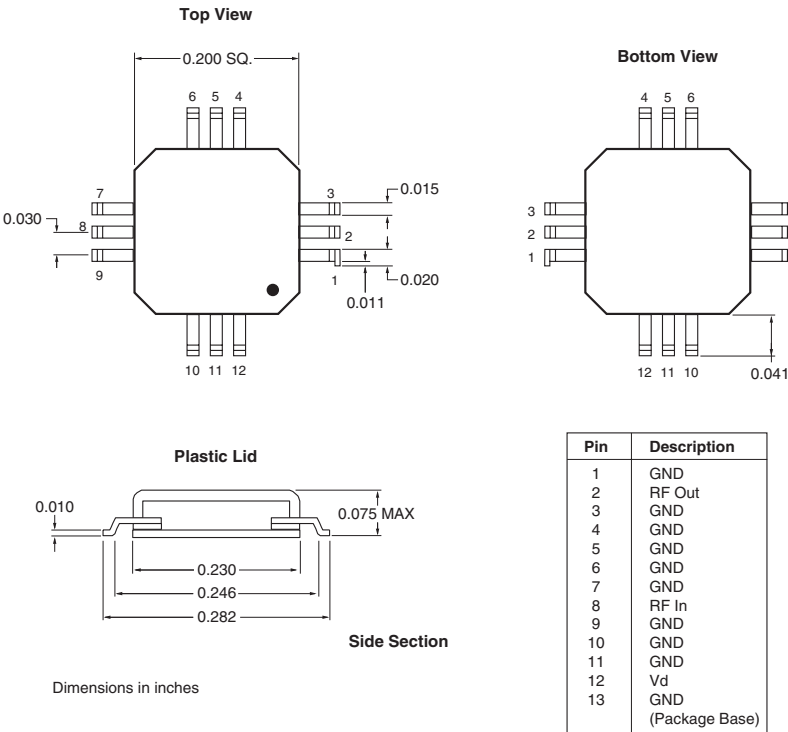
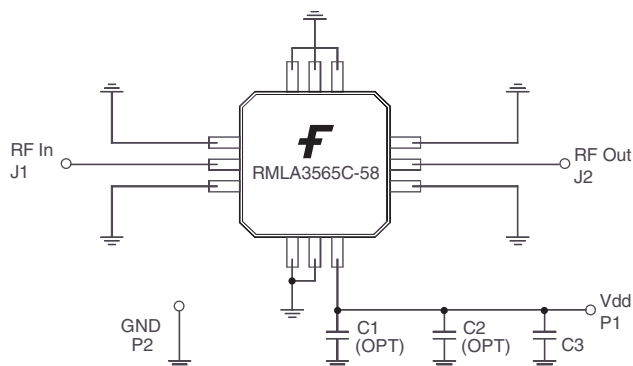
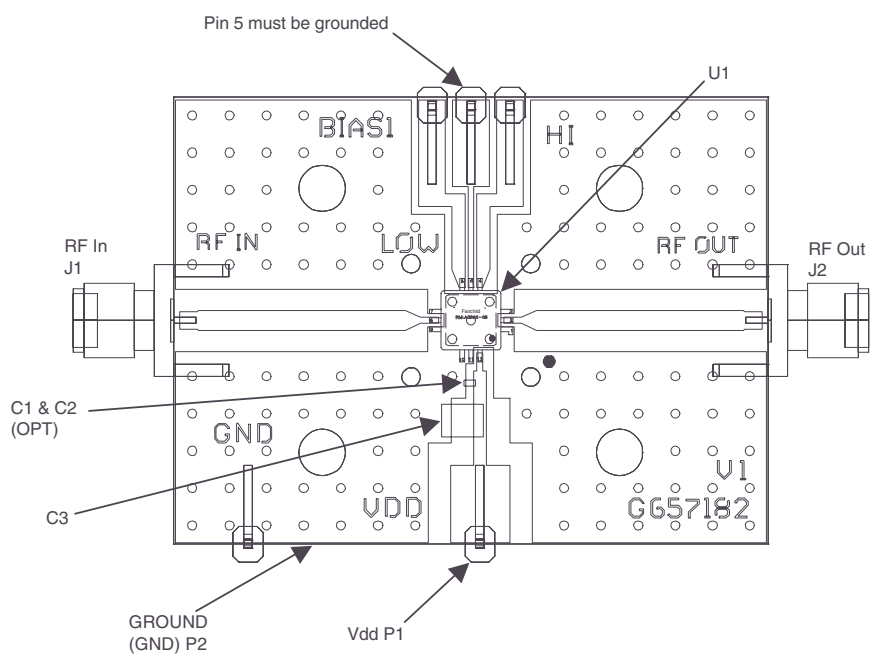

Figure 2. Package Outline Dimensions
Figure 3. Schematic for a Typical Test Evaluation Board (RMLA3565C-TB)
Figure 4. Layout and Assembly of Test Evaluation Board (RMLA3565C-TB)
Figure 2 shows the outline and pin-out descriptions for the packaged device. A typical test fixture schematic showing external bias components is shown in Figure 3. Figure 4 shows typical layout of an evaluation board corresponding to the schematic diagram. Typical performance of the test fixture is shown in the performance data section. The following should be noted:
- (1) Package pin designations are shown in Figure 2.
- (2) Vd is the drain voltage (positive) applied at the pins of the package.
- (3) Vdd is the positive supply voltage at the evaluation board terminal.